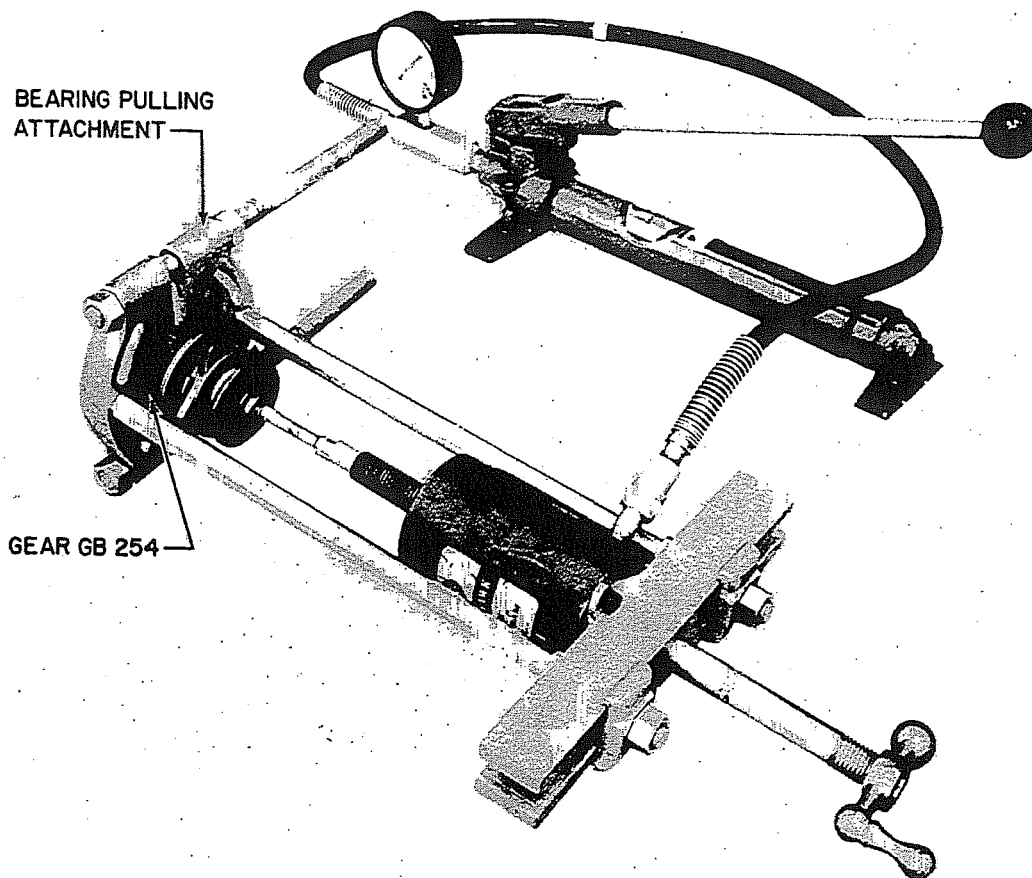

Figure 49. Detector, Installation of Gear GB254
- Y. Secure the bearing pulling attachment behind Detector Gear GB254 and install (figure 49).